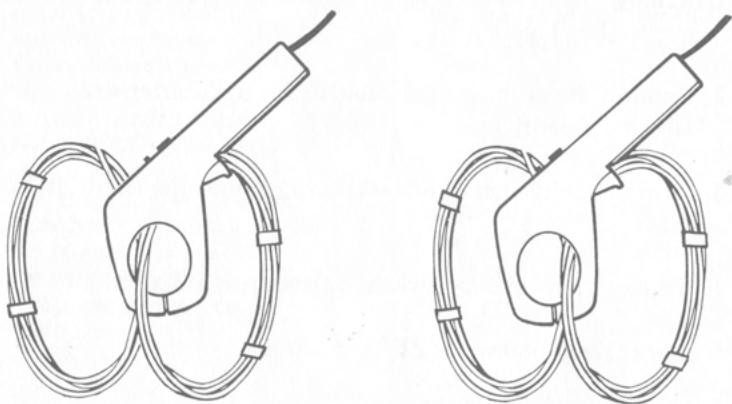

Figure 4-3. Conductor Postions for Hall Generator Balance Adjustment
4. Clamp the probe around the center conductor (Figure 4-3) and move the probe alternately back and forth to position the conductor first at the top and then at the bottom of the aperture. Note the readings and adjust the Hall Generator balance R30 until the top and bottom readings are equal  $\pm 0.3$  mV ac.